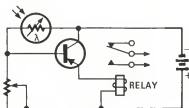

FIG. 6
6. The circuit shown in Fig. 6: